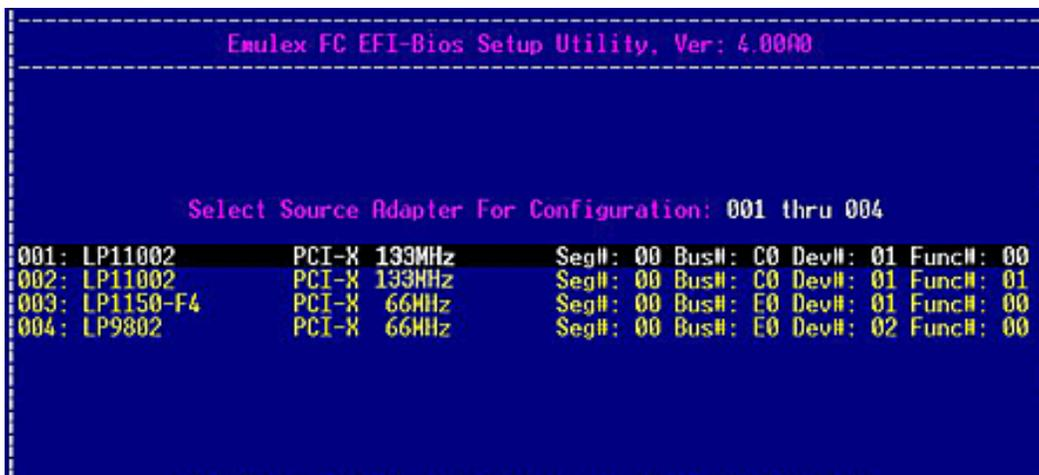

Figure 54: Select Source Adapter for Configuration listing screen
2. Select **1. Read Configuration from NVRAM** and press <Enter>. A list of the adapters in the system is displayed (Figure 54).